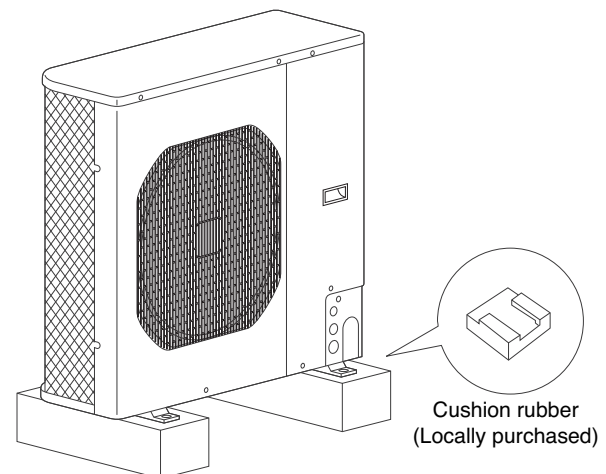

Fig. 5d
- install cushion rubber under unit's feet to reduce vibration and noise. (Fig. 5d)